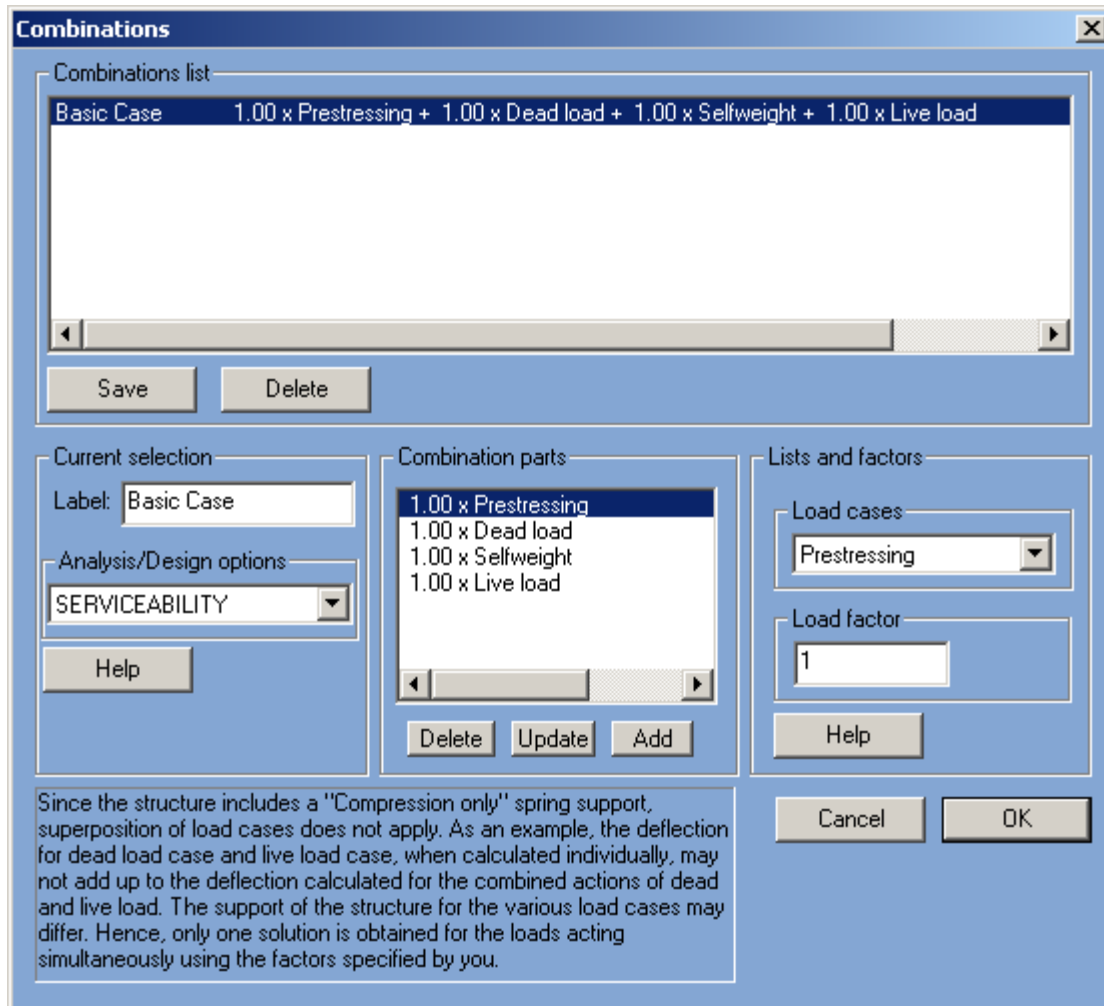

FIGURE 2.4.3-1 LINE LOAD WIZARD DIALOG BOX
2. By default the program automatically creates a load combination called *Basic Case*, which includes *Selfweight*. To add the dead load case to the combination, choose *Dead load* from the *Load cases* combo box. Leave the *Load factor* value as 1. Click *Add* under the *Combination parts*. Dead load will appear as part of the combination. Repeat this step for live load and prestressing (**Fig. 2.4.3-1**).